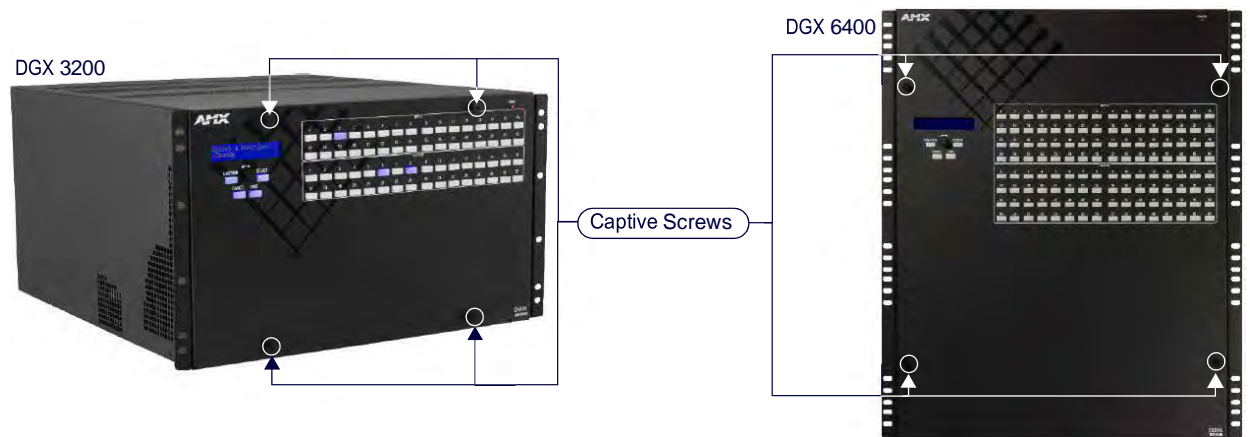

FIG. 158 Loosen 4 captive screws (screw location varies slightly depending on model)
2. Loosen the four captive screws on the control panel (FIG. 158):